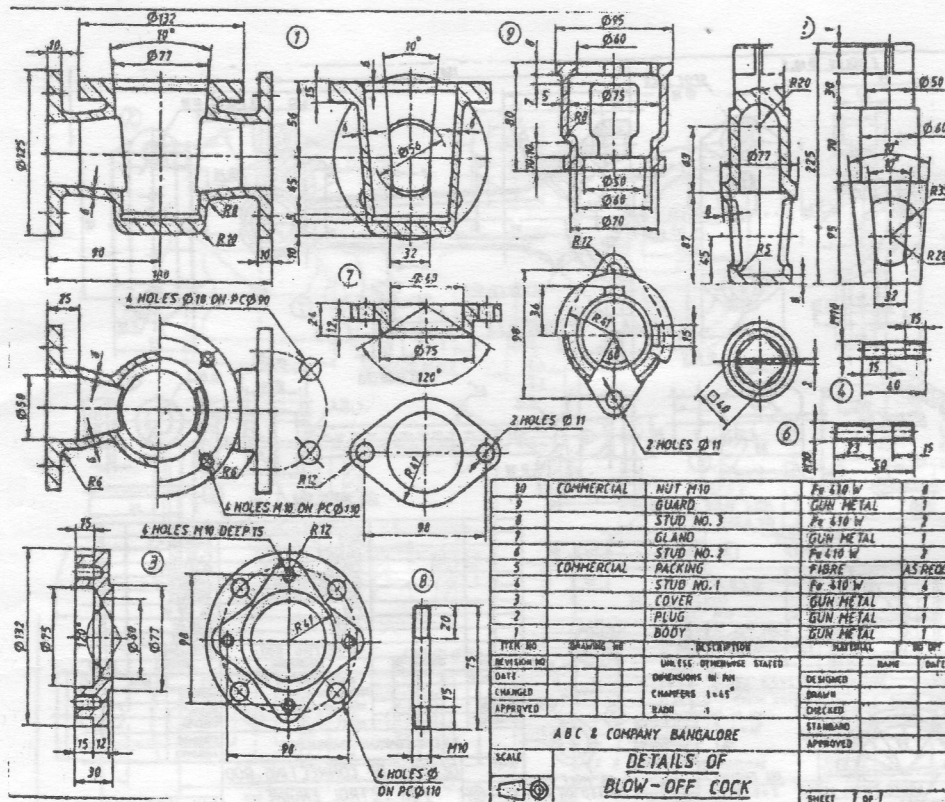

Fig. 4.
6. Fig 4. shows the details of Blow off Cock. Draw the following views after assembling the parts :-